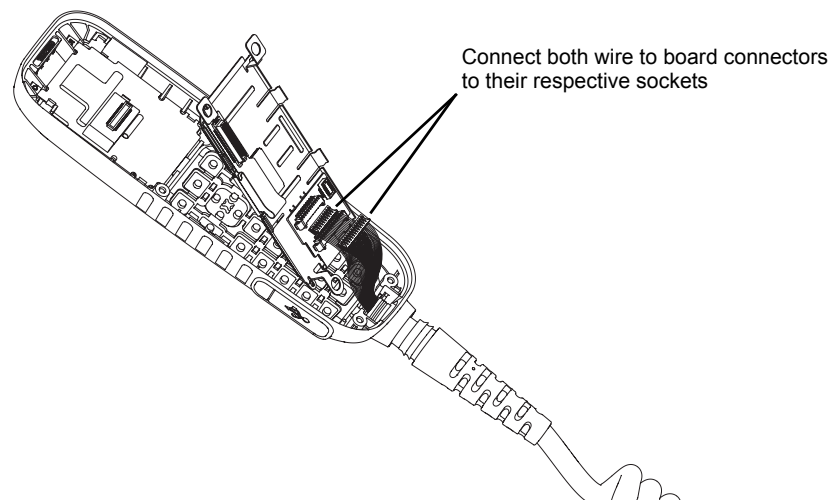

Figure 6-38 Wire to Board Connectors
2. Assemble the wire to board connectors to the keypad flex as shown in Figure 6-38.